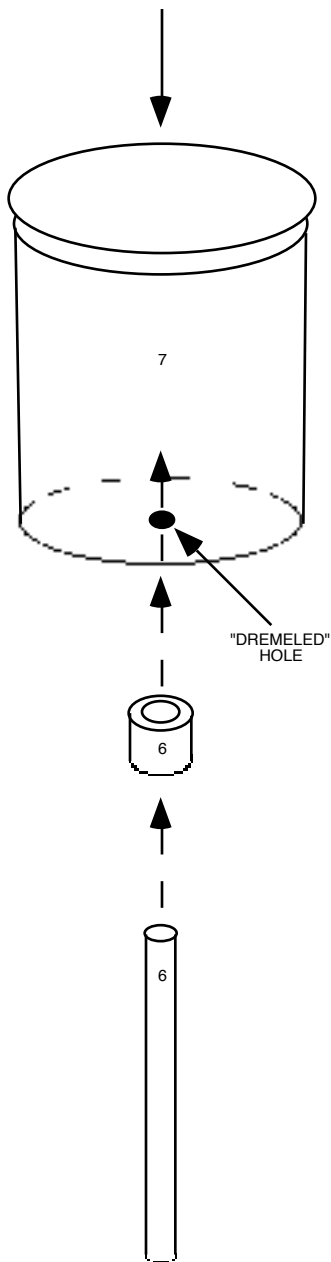

Figure 5.
7) Dremel-out a 1/2" hole in the HDPE jar, insert "6," and seal the 1/2" tubing to jar (see Figure 5 on Page 4). Use a "natural" (clear) HDPE jar if possible.